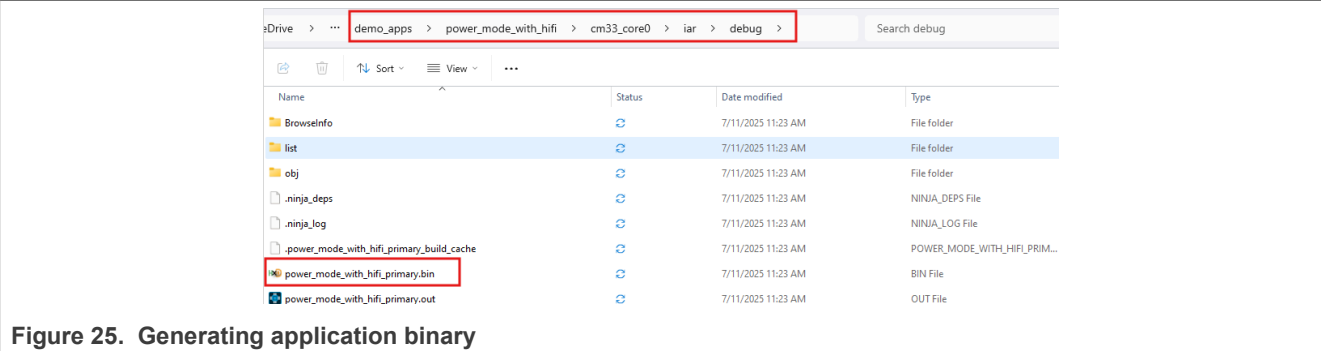

Figure 25. Generating application binary
9. To generate the binary file `power_mode_with_hifi_primary.bin`, as shown in Figure 25, compile the primary project.